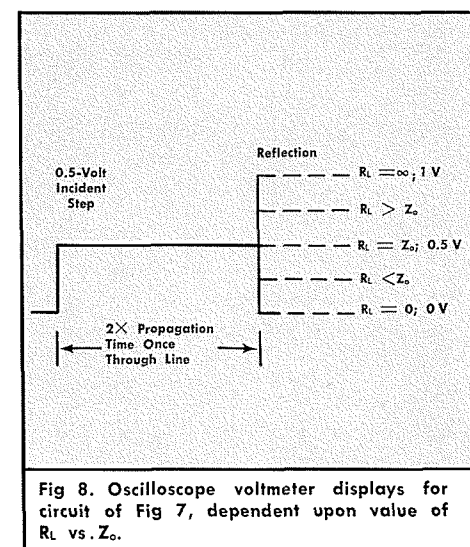
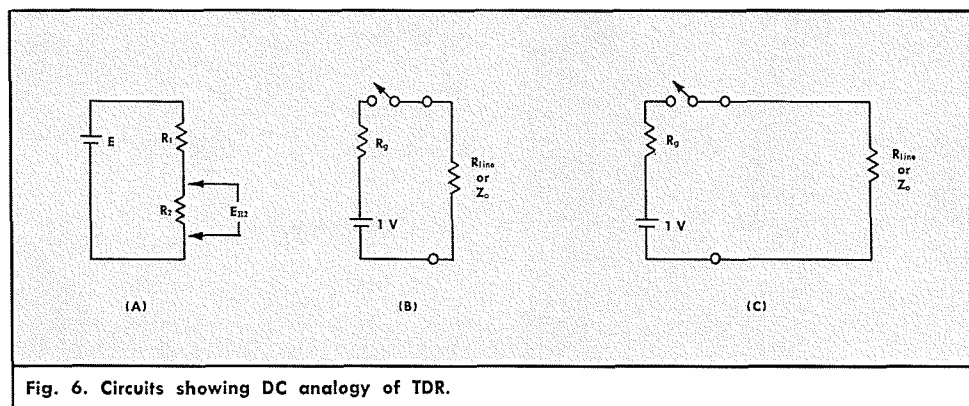
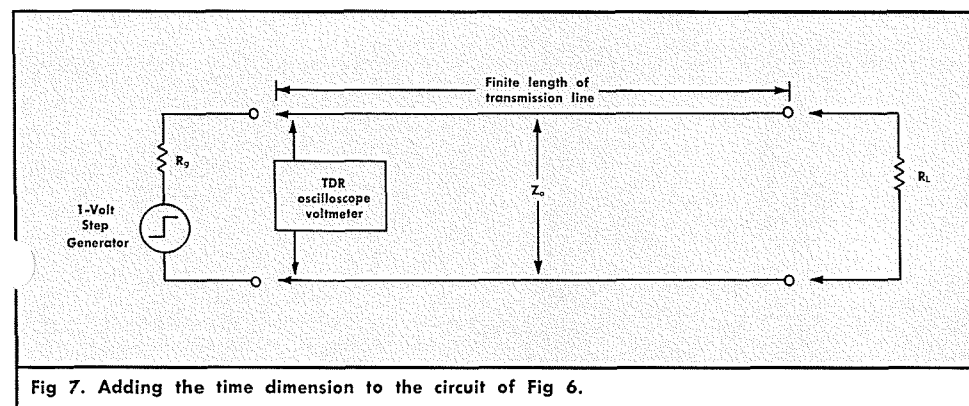

Fig 8. Oscilloscope voltmeter displays for circuit of Fig 7, dependent upon value of R_L vs Z_o .
Fig. 6. Circuits showing DC analogy of TDR.
Fig 7. Adding the time dimension to the circuit of Fig 6.
Fig 6 shows three simple circuits that can be related to transmission lines and TDR. Fig 6A is the diagram of an ordinary resistance voltage divider, where the voltage across
Fig 7 substitutes a step generator for the battery and switch of Fig 6. The generator has zero source resistance so R_g is again added in series with the generator. The generator and R_g drive a finite length transmission line that has a characteristic impedance of Z_o . The transmission line has output terminals that permit connecting a load R_L . An oscilloscope voltmeter measures the voltage signal(s) at the input end of the transmission line.
Assume that no load resistance is connected to the transmission line output terminals ($R_L = \infty$) and that $R_g = Z_o$ (Z_o acts exactly as if it were the DC resistor R_{line} of Fig 6). As the zero impedance step generator applies its 1-volt step signal to R_g , the oscilloscope voltmeter indicates 0.5 volt. The oscilloscope voltmeter will continue to indicate a 0.5 volt signal until the wave has traveled down the line to the open end, doubled in amplitude due to no current into $R_L = \infty$,
Fig 8 shows TDR oscilloscope (voltmeter) displays related to the value of R_L vs the value of the transmission line Z_o . Apply resistance values of 50Ω to R_g and Z_o , and 75Ω to R_L of Fig 7. By formula (1), the oscilloscope display of the reflection amplitude will be 0.6 volt. The actual reflection, however, is only 0.1 volt added to the 0.5-volt incident step.